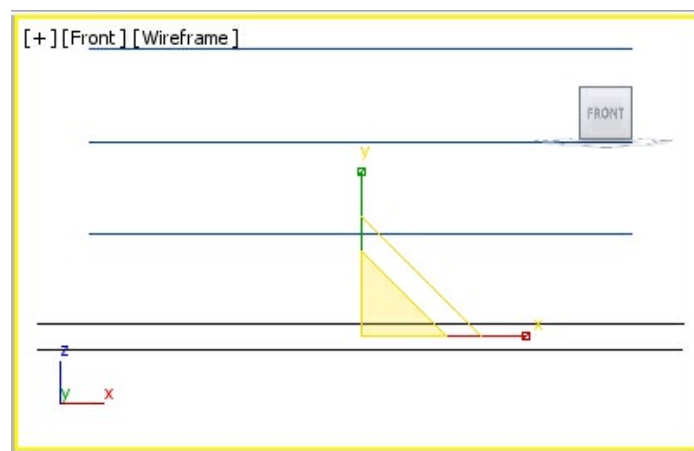

Figure 10-88 The Circle001 and Circle002 splines scaled vertically
11. Select *Circle001* and then by pressing CTRL key, select *Circle002*. Next, right-click on the **Select and Uniform Scale** tool; the **Scale Transform Type-In** dialog box is displayed. In the **Offset:Screen** area, set the value **119** in the % spinner and press the ENTER key; *Circle001* and *Circle002* are scaled, as shown in Figure 10-88.